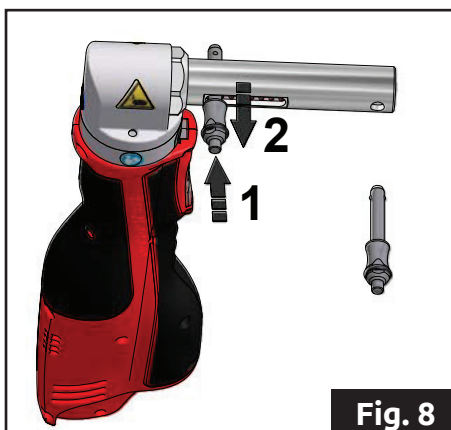

Fig. 8
2. Press the pin into the bolt and keep it pressed (1). (fig. 8). Pull the bolt out completely (2). Release the pin.